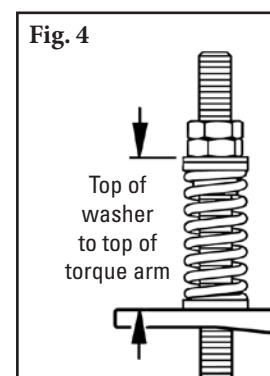

Fig. 4
4. **Reset the correct blade tension.** Refer to the chart for the spring length required for the belt width. Lightly pull the pivot arm toward the end of the torque arm slot nearest the pole and turn the adjusting nuts until the required spring length is achieved (Fig. 4). Tighten jam nut.